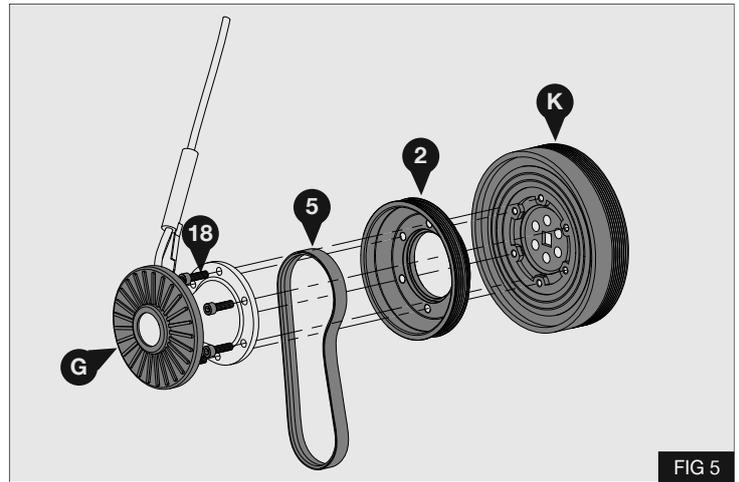

FIG 5
10. Secure the fan hub (G) and the supplied pulley (2) to the original crank pulley (K) using the supplied bolts (18) as shown opposite. Place the supplied belt (5) over the crank pulley (2). Torque bolts (18) to 50Nm / 36.8lb ft
- Fig 5